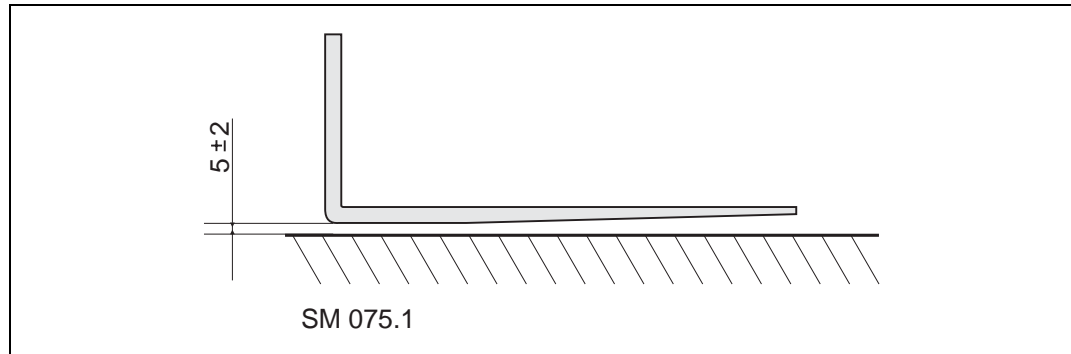

Figure 6.27 Distance from floor
3. Adjust the middle chain so that the fork head is 5 ± 2 mm from the ground (see figure 6.27).